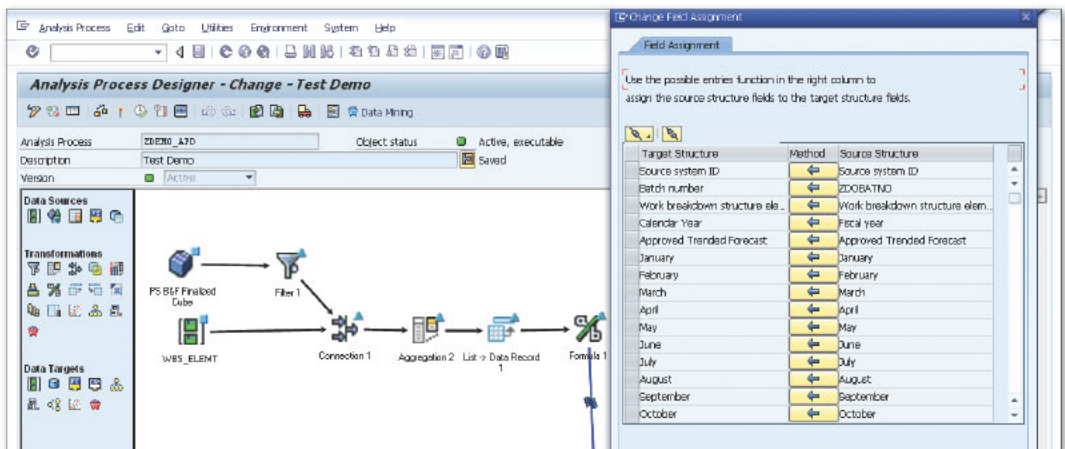

Figure 4 Assigning the Amount to the Transformation Fields
7. Assign the SOURCE STRUCTURE fields to the TARGET STRUCTURE fields in the transformation (see Figure 4).